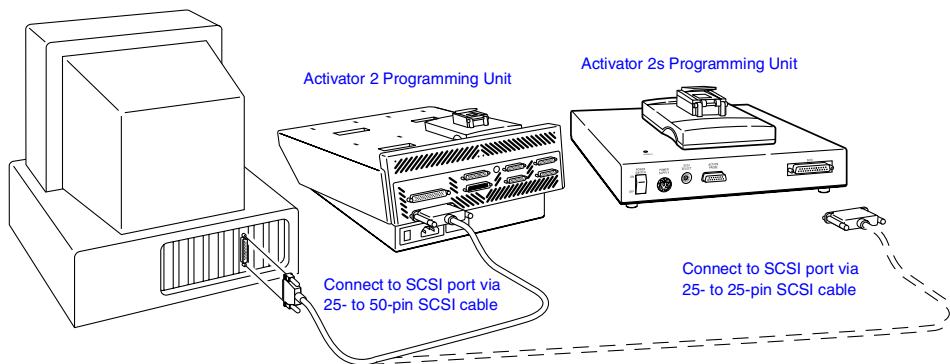

Figure 2-1. Activator 2 and 2s PC Connections
4. **Connect the Activator to the PC using the supplied cable.** Connect one end of the cable to the SCSI connector on the Activator rear panel (you can use either connector on the Activator 2) and tighten the locking screws. Connect the other end of the cable to the 1505A card in the PC and tighten the locking screws. The Activator is terminated internally and must be the last device on the SCSI chain. See Figure 2-1 for the location of the SCSI connectors.